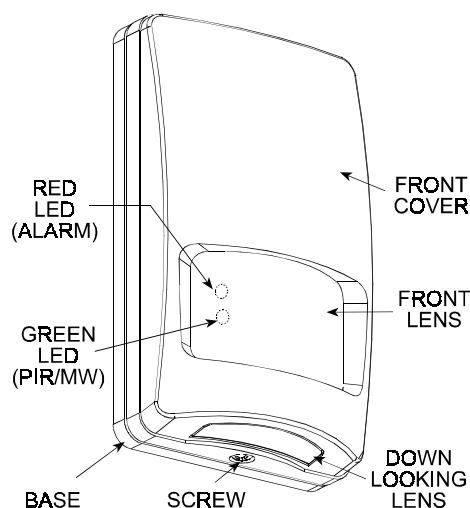

Figure 1. DUO 220 General View
A. Loosen and remove the screw at the bottom of the case (Fig. 1) and then take the cover off.
The two LEDs (Fig. 1) are used to signal various alarm and trouble messages as shown in Table 1 below: